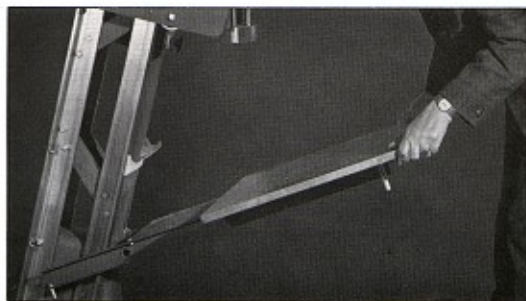

Figure 4. Placement of Baseboard in Middle Position
To raise the baseboard to either of the higher settings, proceed as follows: Grasp the baseboard with both hands and lift the front until the rollers on the channels of the baseboard assembly engage the rear of the front girder. At this point, start to pull the baseboard assembly towards you. This will allow the baseboard to be raised to either of two (2) upper positions. Continue until cross bar on rear of baseboard assembly lines up with the baseboard supporting hooks on the girder assembly. At this point, lift the baseboard towards and over the supporting hooks until the cross bar engages the supporting hooks and the rear of the baseboard channel goes under the stop plates on the rear girders (see figure 4).